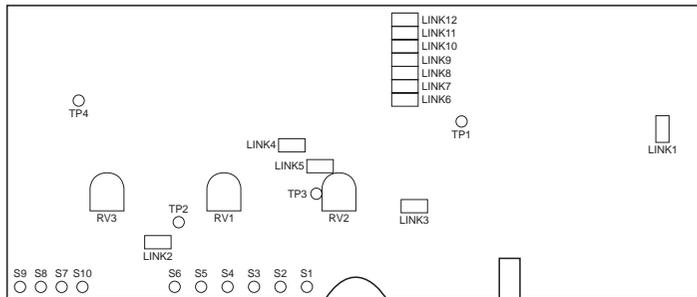

Figure 6 T800-35 Link Location - Top Side
- The T800-35 PCB links are set for UHF operation and 512 baud data rate. For the location of the PCB links refer to Figure 6.